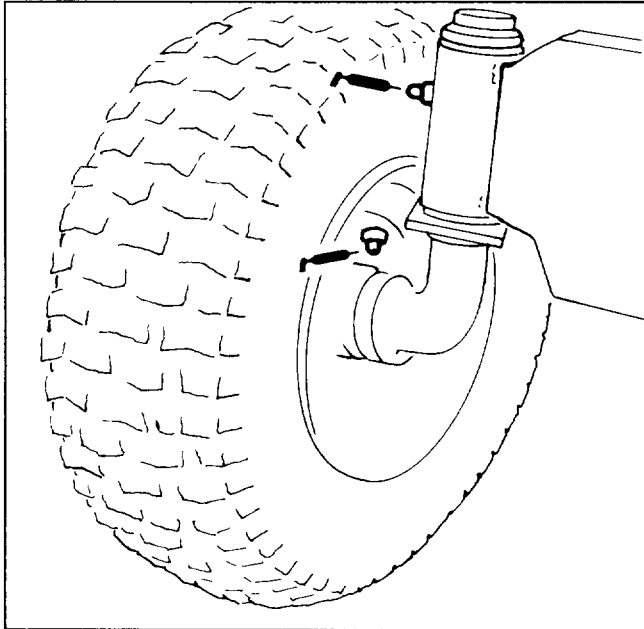

Figure 10
1. Wipe grease fittings on spindles and wheels (Fig. 10) with a clean rag. If there is paint on front of fittings, scrape it off.
2. Lubricate both axle spindles w/No. 2 general purpose grease (Fig. 10). Continue to pump grease until it oozes out the spindle. Wipe up any excess grease.
3. Lubricate both front wheels w/No. 2 general purpose grease (Fig. 10). Pump grease gun about four times. Wipe up any excess grease.